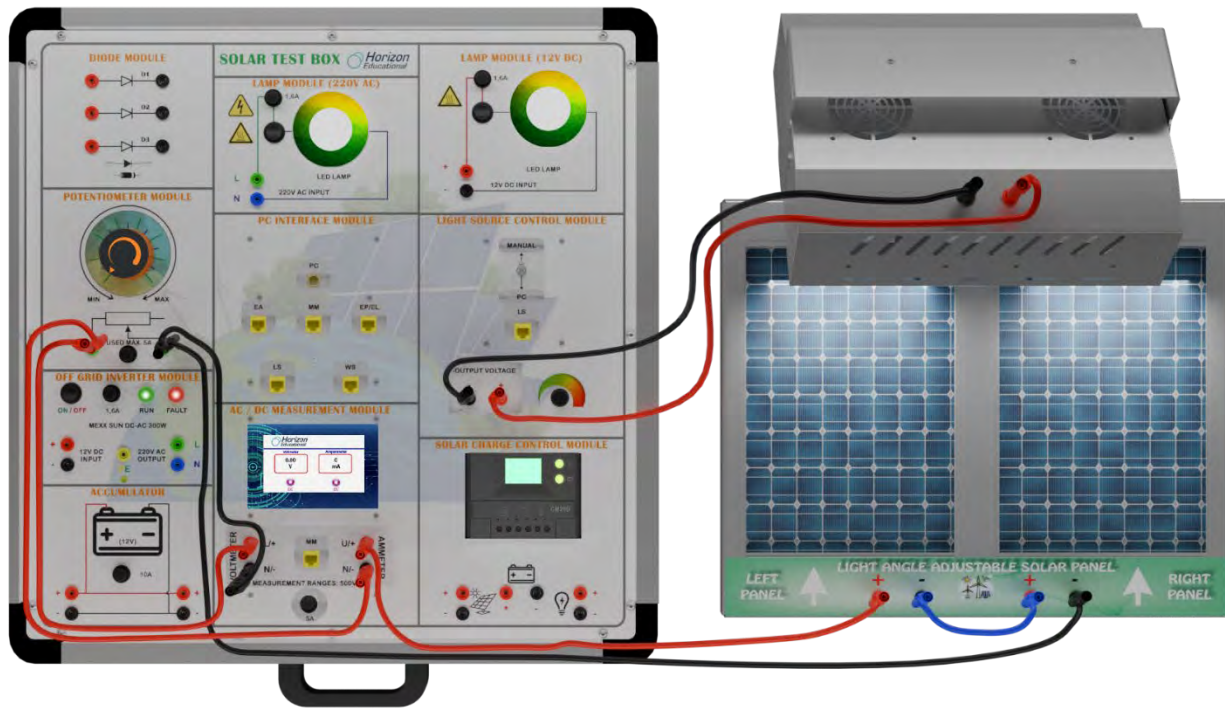

Figure-30. Installation Image of Examination of Shadow Effect in Photovoltaic Panel
1. Set up the connection as specified in Figure-30. Ensure a constant level of light in the laboratory by creating an average scenario. Any alterations to the positions of the lamps or curtains will have an impact on the experimental outcomes.
3. By setting the potentiometer module to 1000Ω , connect to the series connected panel output terminals as shown in Figure-30.